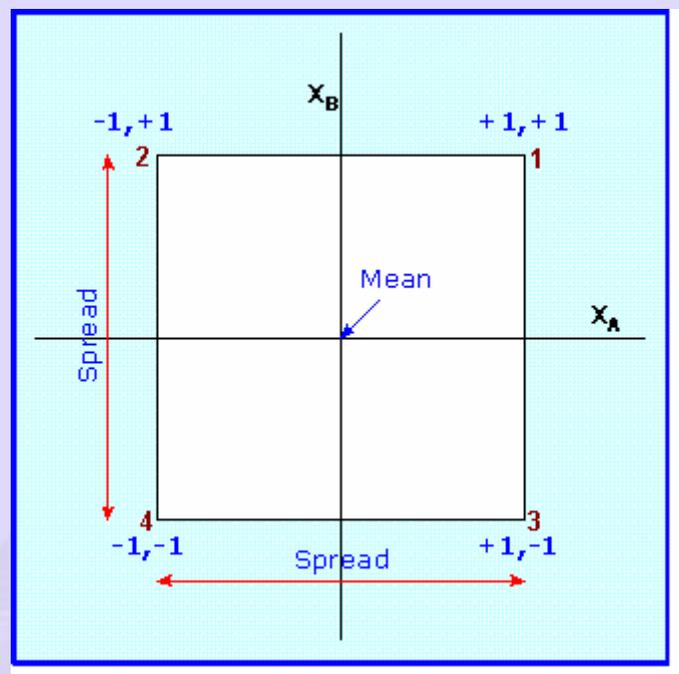

Figure 14 Interpretation of 2^2 factorial experiment
It is easily seen that the parameter p_0 is simply the mean value of y that is obtained by putting $x_A = x_B = 0$ corresponding to the mean values for the factors. Equation (49) expresses the fact that the outcome may be interpreted as shown in Figure 14.